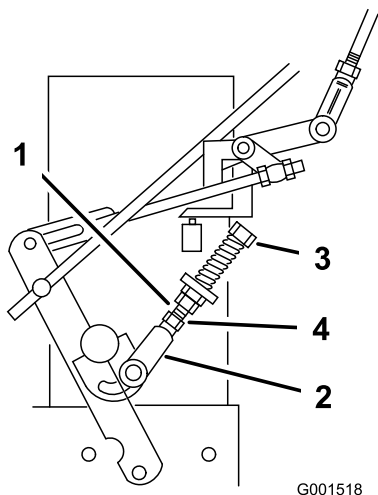

Figure 36
9. If the wheel turns while holding the drive lever in neutral, the neutral control linkages need to be adjusted (Figure 36). If wheel stops then go to step 12.
10. Loosen the nut against the neutral control linkage yoke (Figure 36).
11. Adjust the neutral control linkage until the respective drive wheel stops while the drive lever is pulled against the neutral spring (neutral position) (Figure 36).
12. Turn the adjusting bolt approximately 1/4 turn clockwise if the wheel is turning in reverse or turn the bolt approximately 1/4 turn counter-clockwise if the wheel is turning forward (Figure 36).